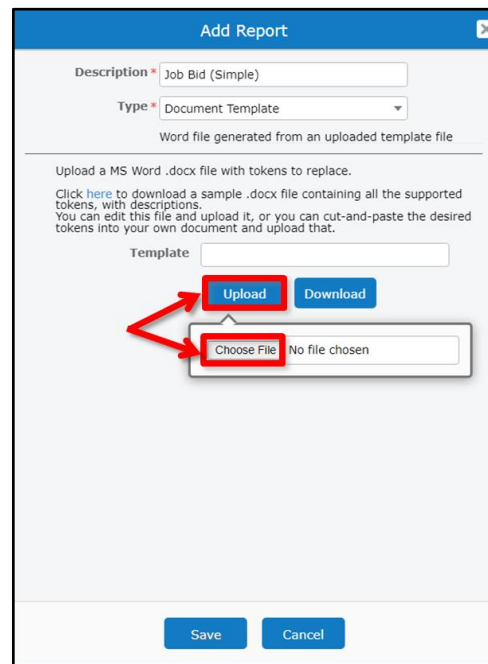

Figure 41: Click on the **Upload** button, and then the **Choose File** button to initiate the upload process.
- Click on the drop-down arrow to the right of the *Type* field and, since we will be uploading a Microsoft Word document, select *Document Template* from the drop down list. When you do, the contents of the *Add Report* dialog box will change, as pictured in **Figure 41** on the following page.
6. Now, in the *Add Report* dialog box, click on the **Upload** button (**Figure 41**) to initiate the upload process. The **Choose File** button will become visible. Click on the **Choose File** button.